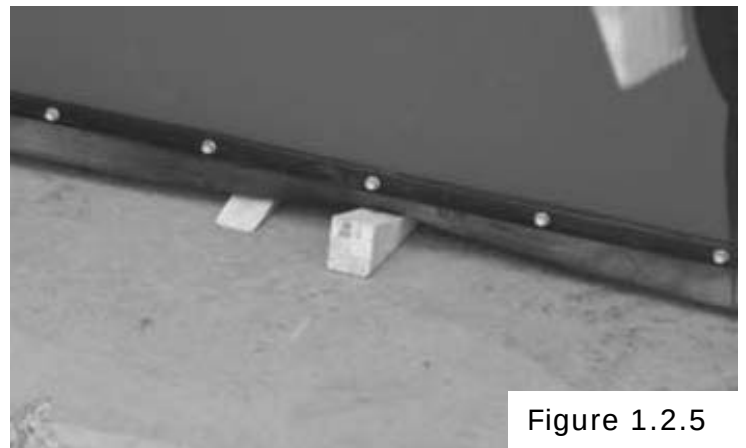

Figure 1.2.5
5. Cut wood shims to insert at the bottom of the door to shim it up from the floor. (Figure 1.2.5)